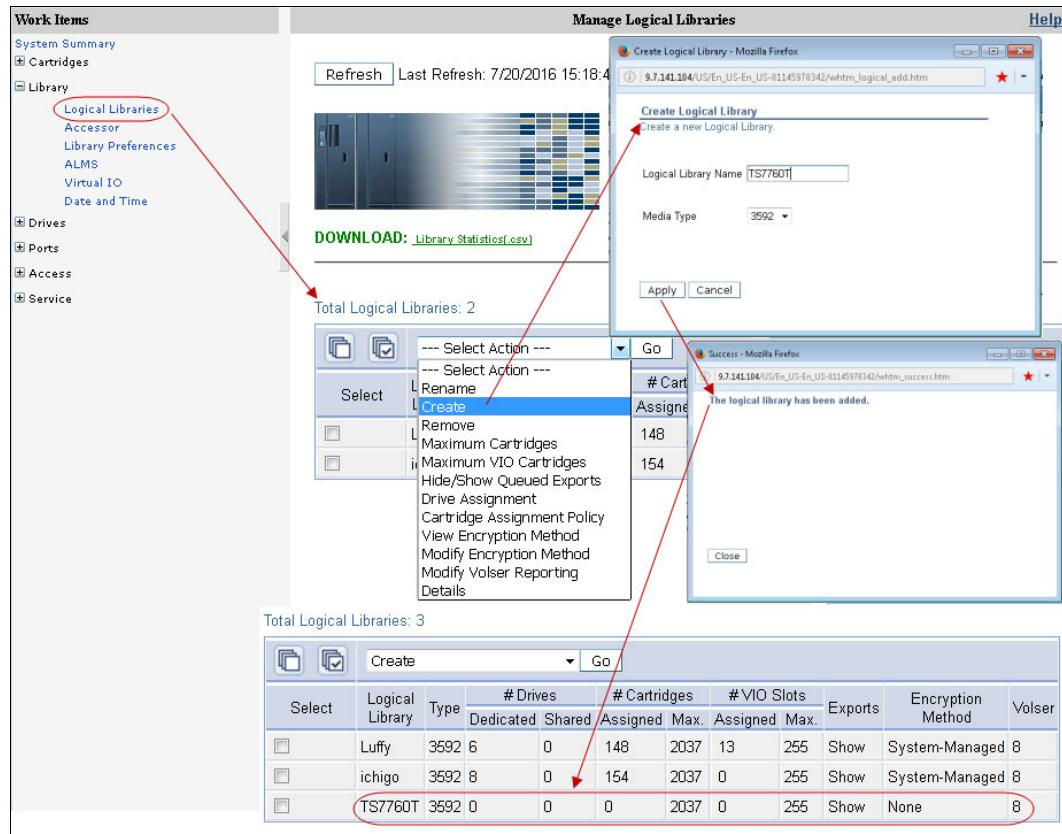

Figure 11-7 Creating a Logical Library with the TS3500 tape library
4. After the logical library is created, you can display its characteristics by selecting **Library → Logical Libraries** under work items on the left side of the window. Figure 11-7 shows a summary of the windows in the Create logical library sequence.